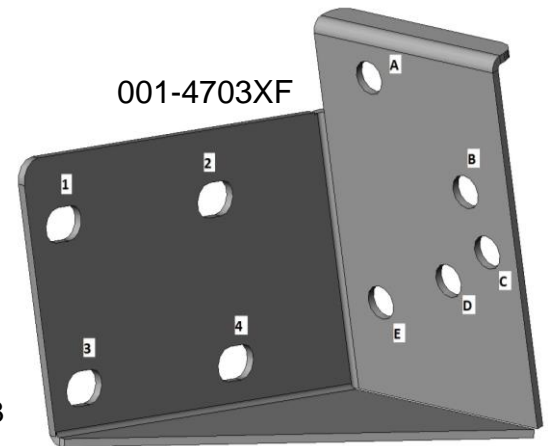

Figure 3
2. Use 3/8" x 3/4" hex bolt, flat washers, lock washers, and nuts to secure Pump Plate Bracket (001-4703XF) to back side of Pump Mounting Bracket (001-4648X). Use holes 1 or 3 as designated in Figure 3 on the Pump Plate Bracket (001-4703XF). Slide the Pump Plate Bracket (001-4703XF) so it touches the door support bracket.